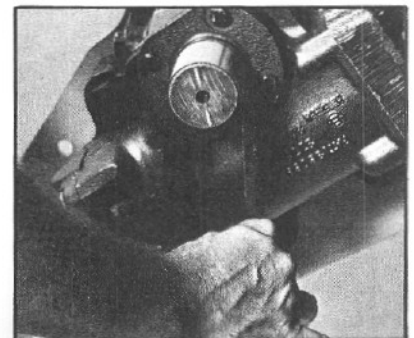

Figure 7
- 1.3 Clean the sector shaft (50) with a fine grade of emery paper (FIG. 7). Be sure to remove any and all paint.